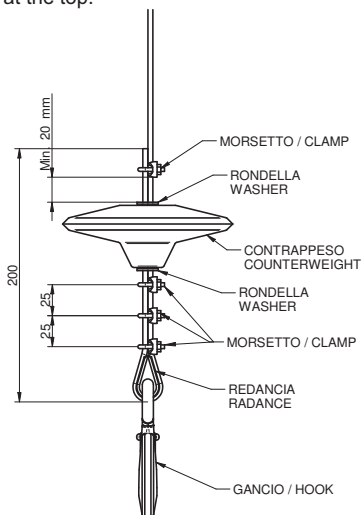

Fig. 4.7
6.2) Fig.4.7 With three U-bolt clamps at the bottom of the counterweight installed as shown in Fig.4.8 (correct) below and one U-bolt clamp at the top.